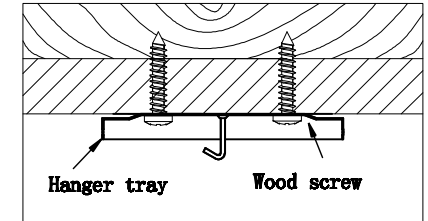

Fig2
2. When the wood board ceiling is used, use the wood screw to fix the hanger on the wood beam or the plywood with the thickness more than 9mm. (Fig2)